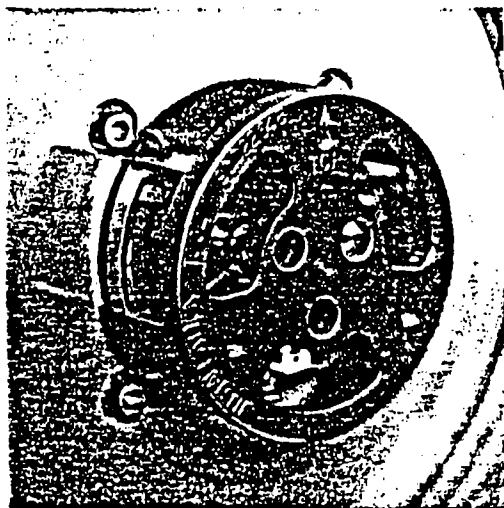

Figure 5-18. Pneu-Latch Installation
8. Rotate the tool so that it will not interfere with the write enable photosensor and push it toward the deck plate until the four feet on the tool contact the surface of the deck plate (not overlay) where it is exposed at the four reel motor mounting bolts. Refer to Figure 5-18.